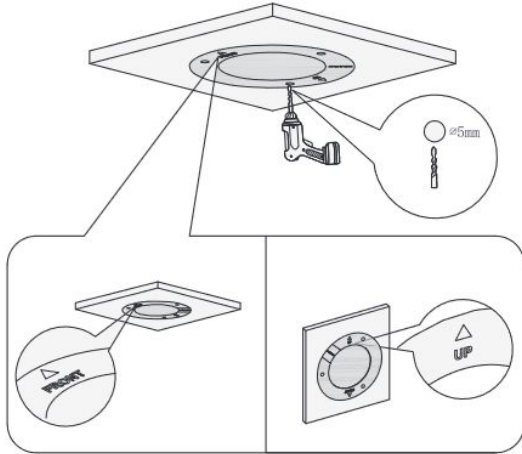

Figure 2-1
Step 1 Use the included position map and drill the appropriate mounting holes and cable exit, if necessary. Keep in mind to line up the locking tabs on the base for disassembly. See Figure 2-1